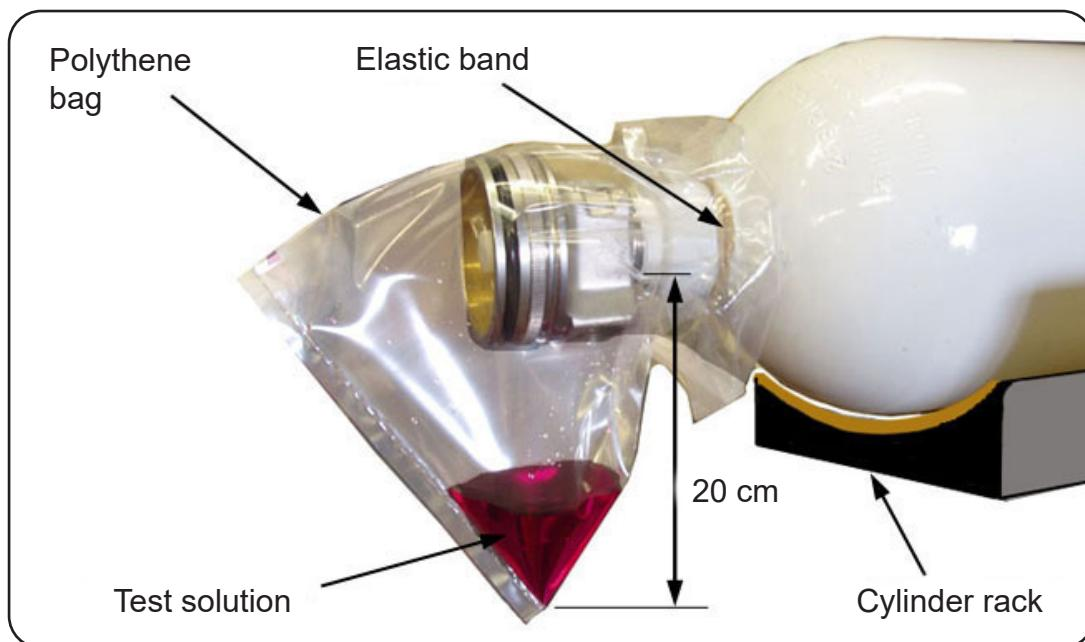

FIGURE 508
- (b) Lay the cylinder to be tested on its side, in a rack, so that the valve end is protruding. Refer to FIGURE 508. Make sure that the valve and shoulder of the cylinder are free from dust and other contaminates by carefully wiping using a clean, dry cloth. Remove the dust cap to clean the valve then replace the cap loosely.
- (d) Attach the open end of the bag over valve head and attach it to the cylinder body using one or more elastic bands. Make sure that there are no air gaps in the seal. Refer to FIGURE 508.